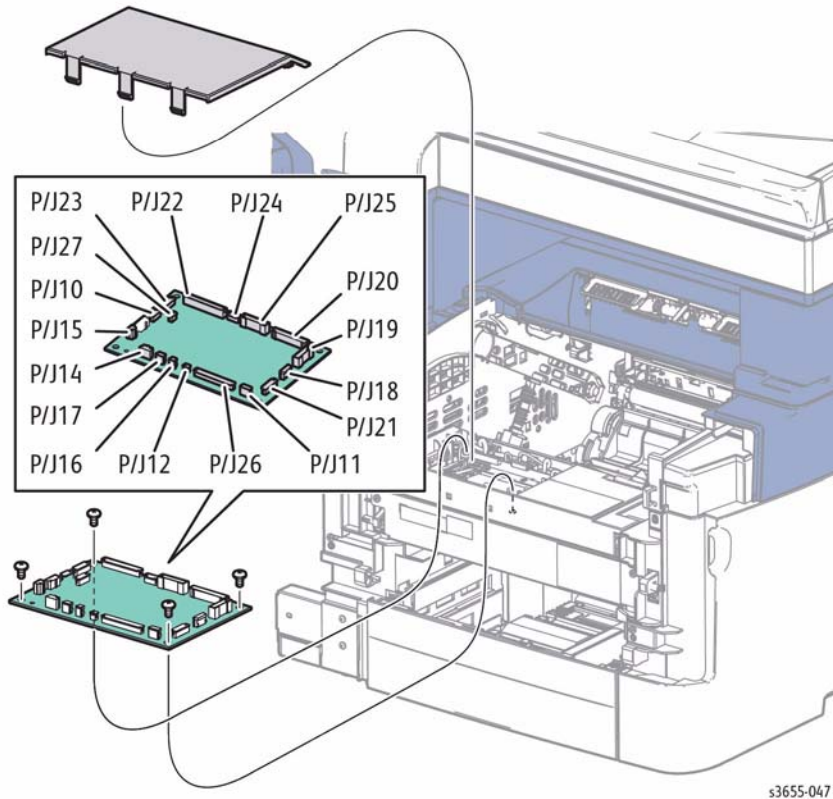

Figure 1 Remove the MCU Board
3. Refer to Figure 1 to locate and release 3 hooks that secure the MCU cover and disconnect all MCU Board connections, then remove 4 screws (silver, M3, 6mm) to remove the MCU Board.